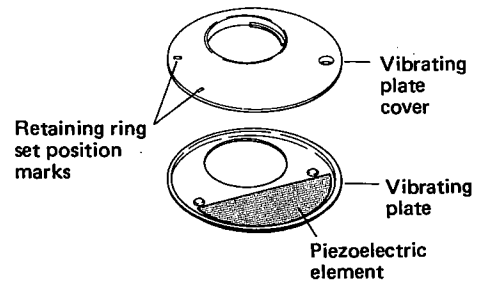

Fig. 4
- b. The vibrating plate and the vibrating plate cover are assembled together and then incorporated into the center body. The vibrating plate is set with the piezoelectric element side up, and the vibrating plate cover is set with the retaining ring set position mark turned up respectively. (Fig. 4)